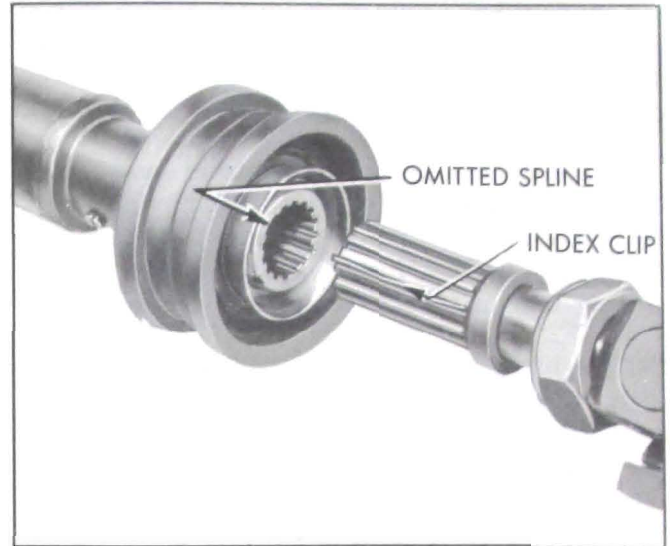

Figure 6-38—Assembling Slip Joint
2. Align index spring with missing internal spline in rear end of front propeller shaft and slide slip joint together. See Figure 6-38.